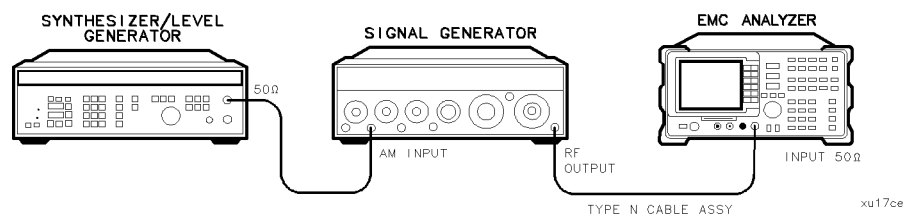

Figure 2-70. Fast Sweep Time Accuracy Test Setup, HP 8591EM
4. Connect the equipment as shown in Figure 2-70.